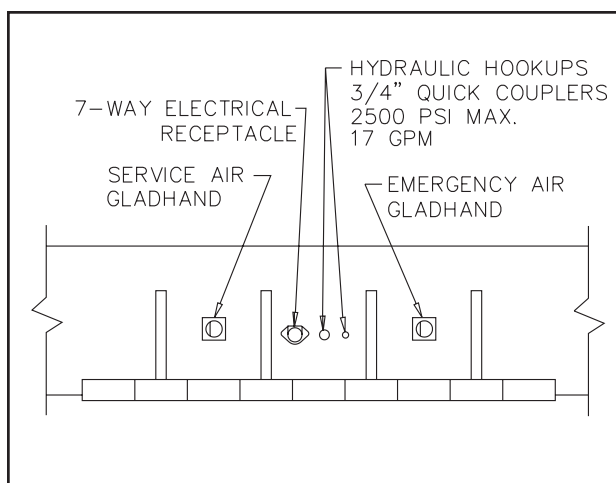

Figure 3-3 Service Hookups
3-2.3 Connect the service and emergency air hoses of the towing vehicle to their respective gladhand on the front of the semitrailer; red emergency line to the gladhand with the "**EMERGENCY**" tag, and the blue service line to the gladhand with the "**SERVICE**" tag (See Figure 3-3). Chock the semitrailer wheels before activating the semitrailer air supply valve in the towing vehicle. Set the parking brakes.
- 3-4.1** Connect the towing vehicle 7-pole electrical plug to the electrical receptacle on the front of the semitrailer (**See Figure 3-3**).